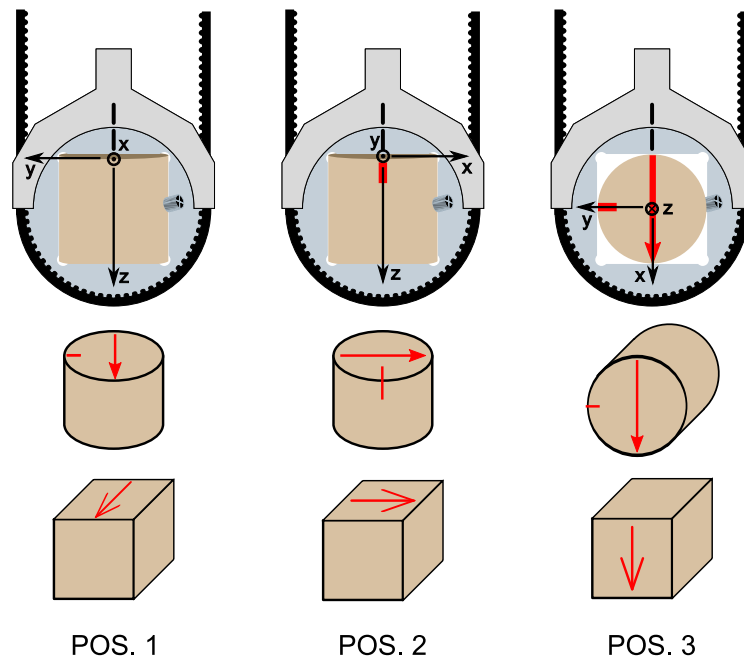

Figure 7: Inserting positions for Classical Rotator
Switch **ON** the Kappabridge, run the SAFYR software, push **ACTIVATE** button, choose AMS measuring mode and continue with the activation. Software detects the type of connected rotator automatically. Run `Execute|Calibration` and `Execute|Holder Correction` using rotator. Measurement of the AMS consists of three measurements of the differential susceptibility in three planes (Position 1 – y,z plane; Position 2 – x,z plane; Position 3 – x,y plane) and additional measurement of the Bulk susceptibility in the x-axis of the specimen coordinate system. Specimen must be inserted into the shell of the rotator in the particular position according to the Fig. 7. Additional bulk susceptibility measurement must be performed with the specimen mounted in the position 3.
- For calibration with the **classical rotator** insert the calibration standard in the position 1 as shown on Fig. 7.